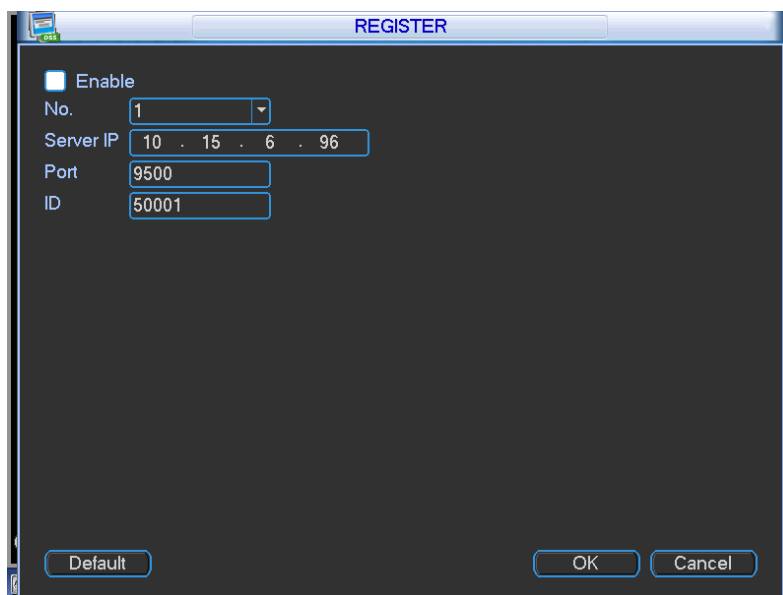

Figure 4-31
1) The setup interface is shown as in Figure 4-31.
3) Now you can add device. Please do not input default port number such as the TCP port in the mapping port number. The device ID here shall be the same with the ID you input in Figure 4-31. Click Add button to complete the setup.